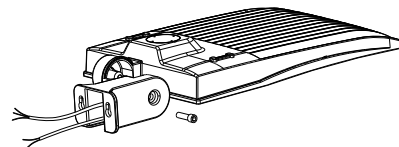

Figure 5
Step 1: Remove the bracket mounting screws on the fixture and run the wires through the bracket. (Figure 5)